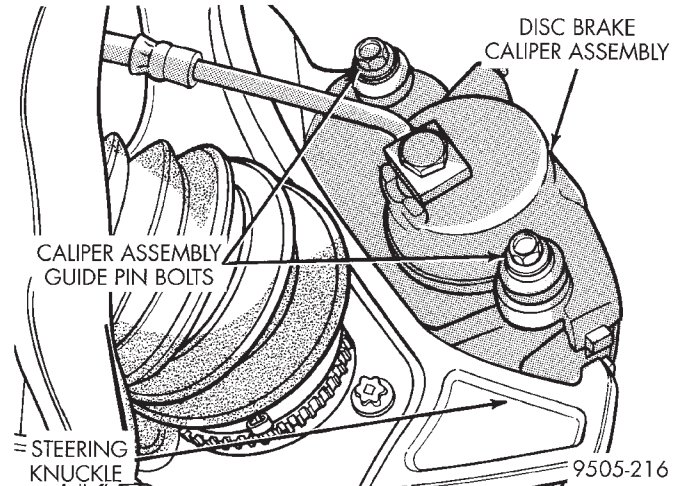

Fig. 60 Front Disc Brake Caliper Mounting
(4) Remove front tire and wheel assembly from the hub.
(5) Remove front disc brake caliper to steering knuckle guide pin attaching bolts (Fig. 60).
- (11) Install disc brake caliper assembly to steering knuckle guide pin bolts (Fig. 60). Tighten caliper assembly guide pin bolts to a torque of 31 N·m (23 ft. lbs.).